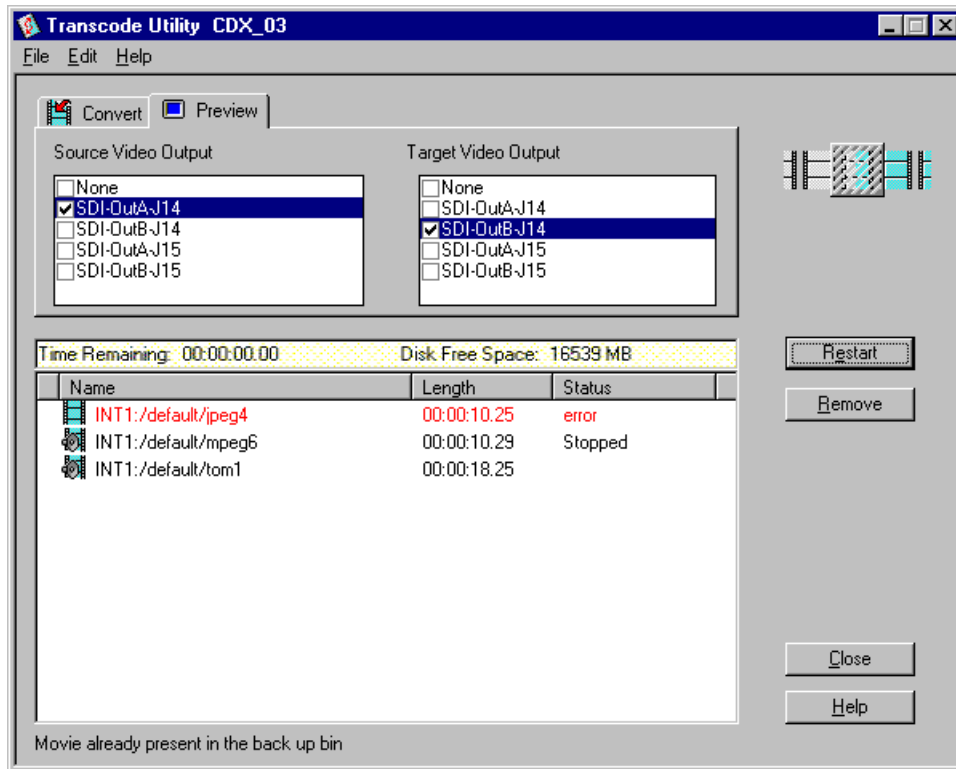

Figure 34. Transcode Utility dialog box, Preview tab
- In the **Preview** tab, select a video output for the source clip or master from the Source Video Output box. This allows you to watch the source media play out on the monitor during the conversion. (See Figure 34.)